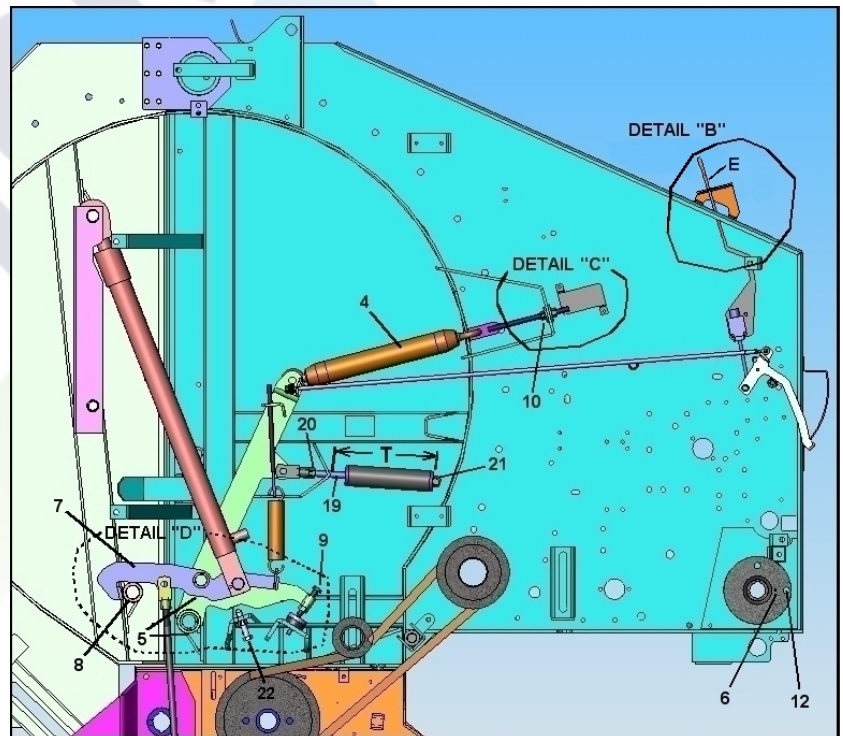

Fig. 8/A
If not, replace the shear bolt no.12 Fig. 8/A.
1. Adjust the position of the hook by means of bolt 9 Fig. 8/A (see pag.16).